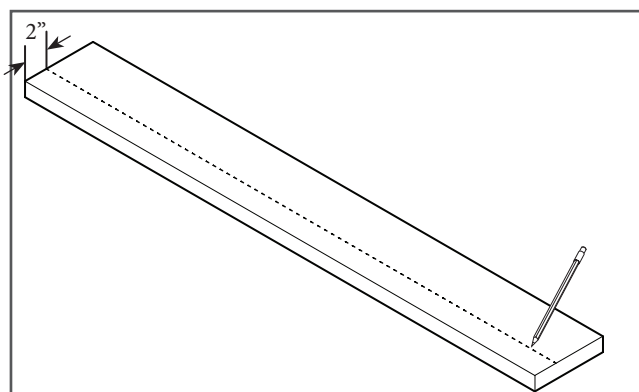

Figure 3
4. Lay the header on a flat clean surface. Using a measuring tape, measure 2" from the bottom of the header. Draw a line the length of the header with a pencil (Figure 3).